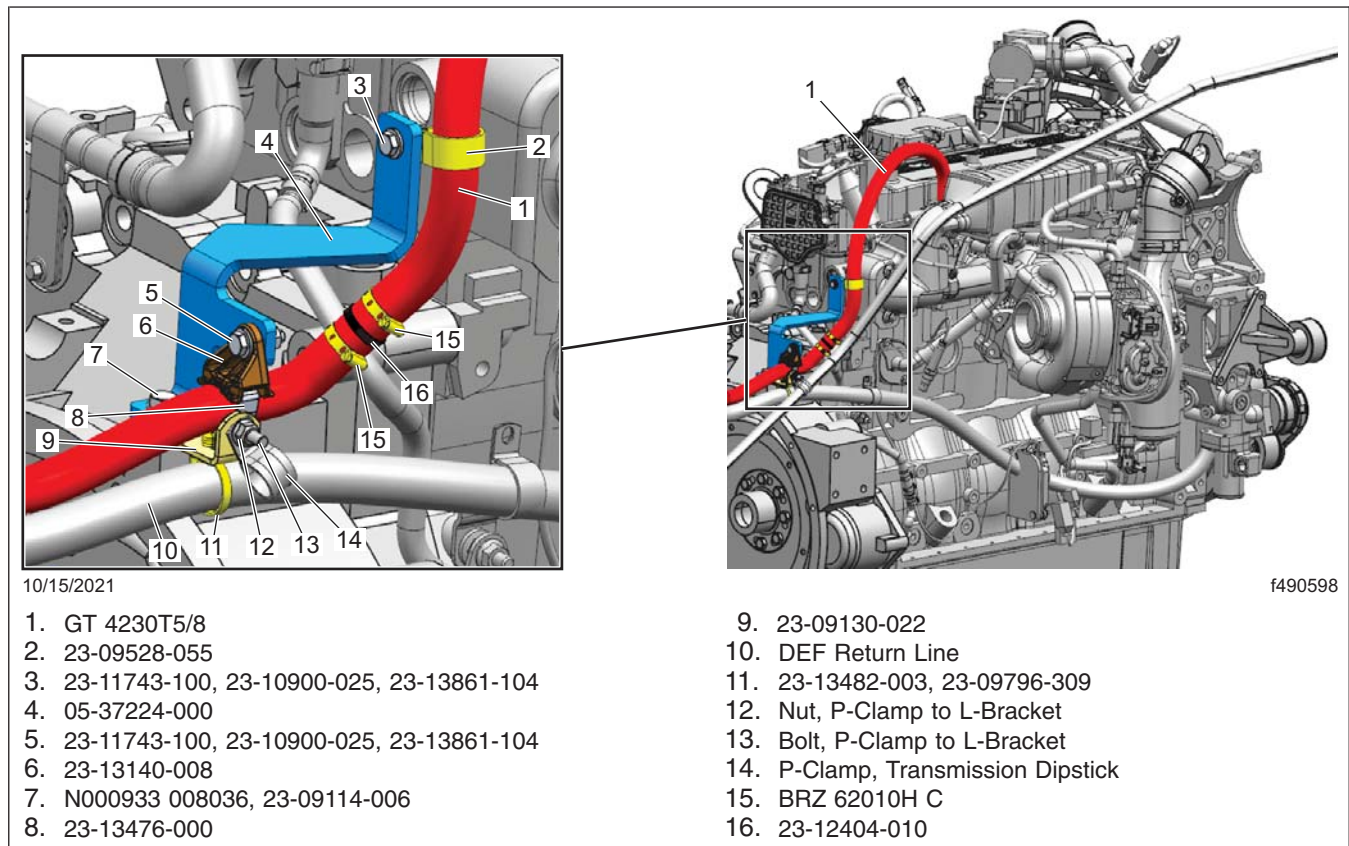

Fig. 4, Mounting, New DEF Coolant Supply Soft Line
See **Fig. 4**, item 15.
16. Using the barbed union, connect the new DEF coolant line to the existing coolant line. Tighten the screw clamps to secure the connection. See **Fig. 4**, items 15 and 16.
19. Position the saddle mount on the new mounting bracket. See **Fig. 4**, item 6. Install the capscrew with washer, and then install the nut. Tighten the nut 64 lbf·in (723 N·cm).
20. Using a tie strap, secure the existing soft line to the saddle bracket. See **Fig. 4**, item 8.
21. Install the P-clamp on the new soft line. See **Fig. 4**, item 2.
22. Attach the P-clamp to the mounting bracket; install the capscrew with washer; then install the nut. See **Fig. 4**, item 3. Tighten the fastener 64 lbf·in (723 N·cm).